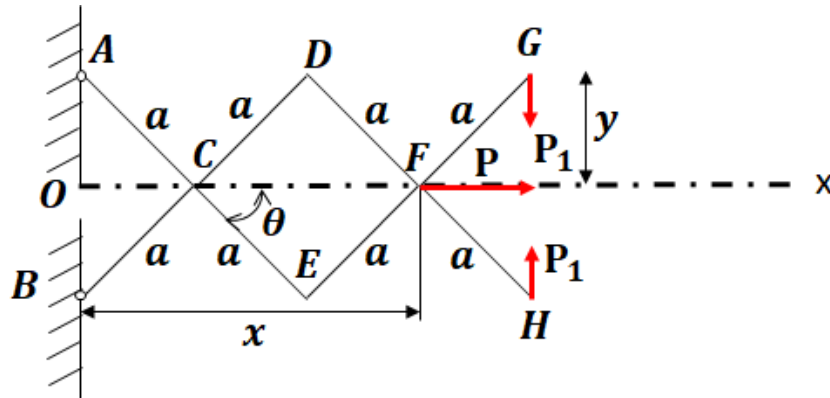

Fig. 4(b)
- (b)** Using the principle of virtual work, determine the magnitude of forces  $P_1$  to hold the frame in equilibrium under the action of force  $P$  applied on the frame as shown in Fig. 4(b), length of each link is  $2a$ . What is  $P_1$  for  $\theta=45^\circ$ ? [6 marks]